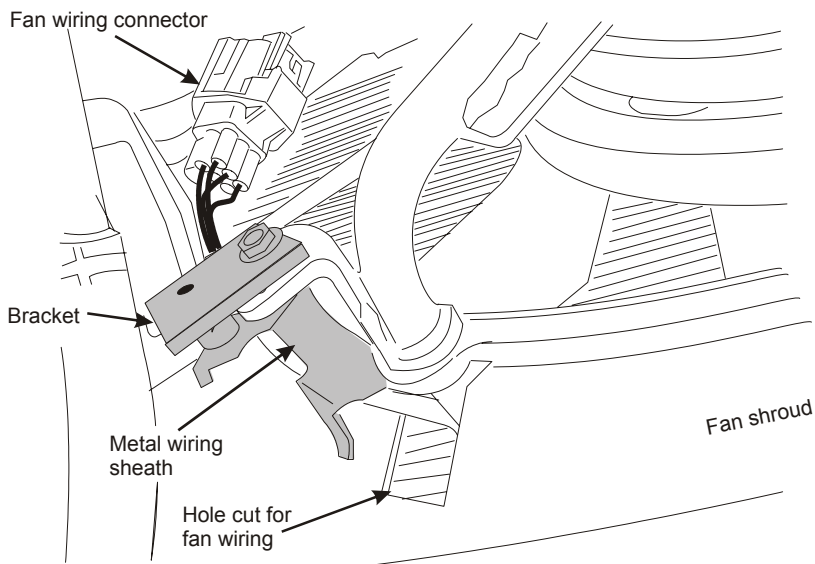

Figure 3.6
- ☐ Install the replacement fan harness attachment bracket on the back of the lower driver side OEM fan shroud bracket. The spacer on the attachment bracket should face forward and sit below the locator (Figure 3.6). Use the OEM fastener.